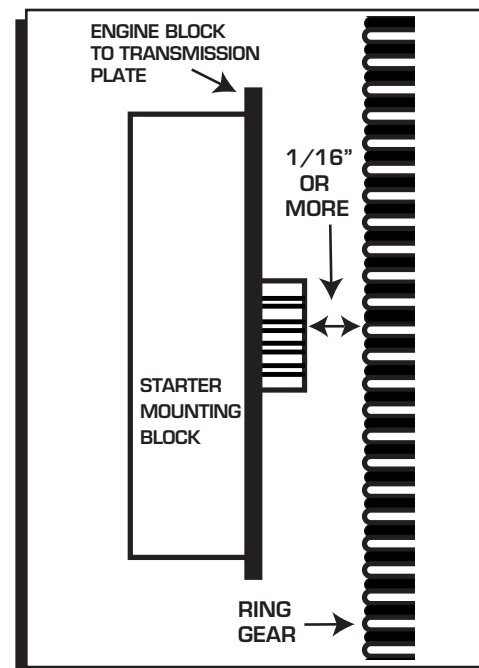

Figure 2 Checking Pinion Clearance.
4. With the starter installed, check the clearance between the ring gear and the edge of the pinion gear (Figure 2). There should be at least $1/16"$. It is recommended to check this clearance in at least three places around the flex plate.